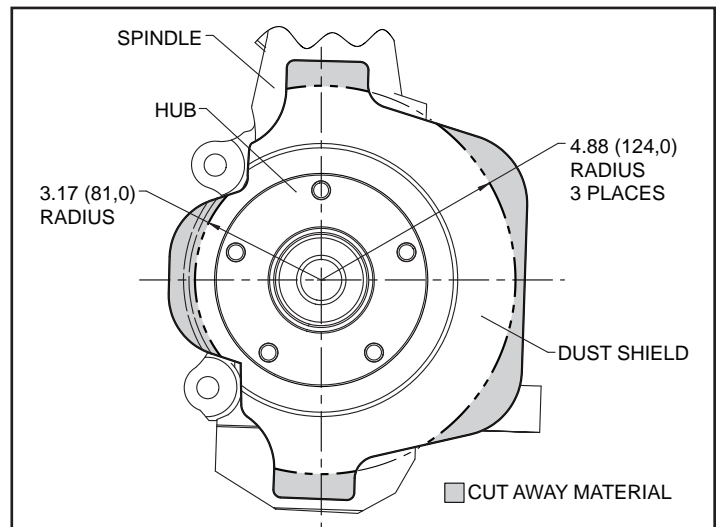

Figure 3. Dust Shield Modification (dash lines represents approximate cut line)
•The front dust shield needs to be modified (cut) as shown by the dotted lines/shaded area in Figure 3, to clear the new Wilwood rotor and caliper. **NOTE:** It is recommended that the dust shield be removed before modification, and the modification be performed by a qualified machine shop.